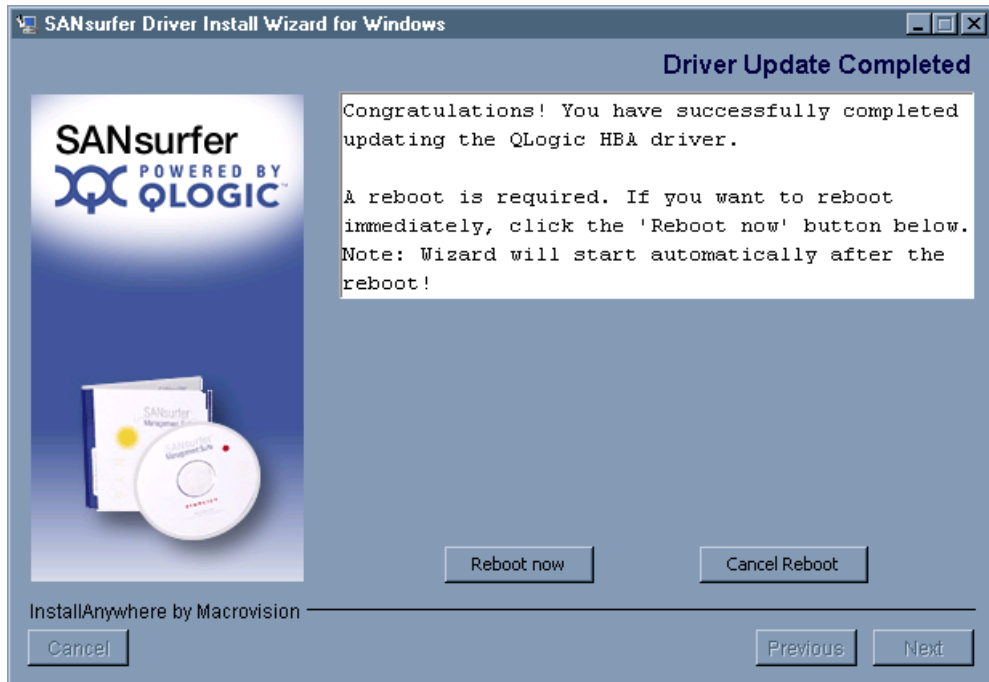

Figure 63 Driver Update Completed dialog box
- When the driver installation completes, the **Driver installed successfully** message appears, as shown in Figure 63. Click **Next** to continue.